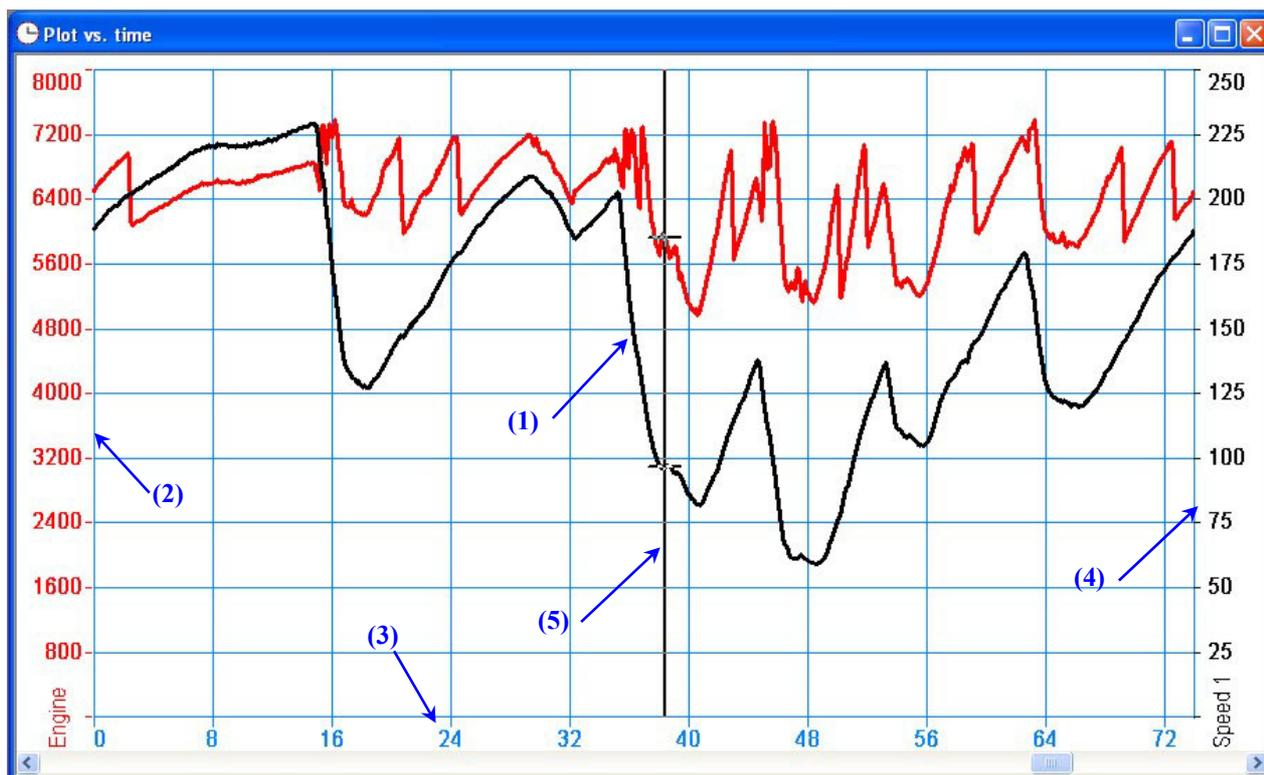

Fig. 4.1– Plot vs. time: overlapped graphs
The layout of the view for overlapped graphs is shown in Figure 4.1 and described below.
- Use the scrollbar located in the lower part of the graph (see Figure 4.1, for instance).